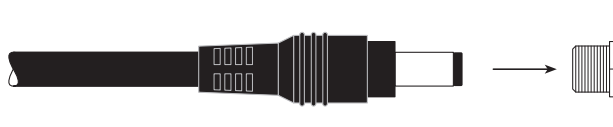

Figure 2-9. PS0007 DC Power Cord
- 2 Connect one cable (PS0007) to 'PS1'. Figure 2-9 is an example of the PS0007 DC power cord.